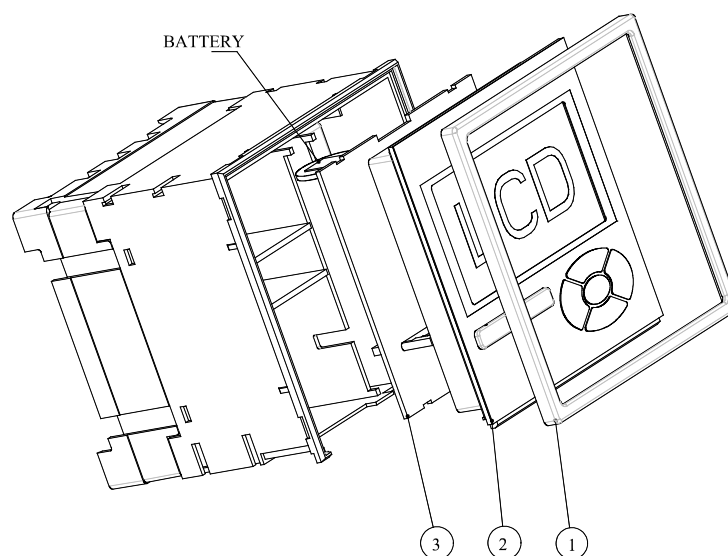

FIGURE 16-1: BATTERY REPLACEMENT
2. Remove frame [1] from the instrument (see Figure 16.1)